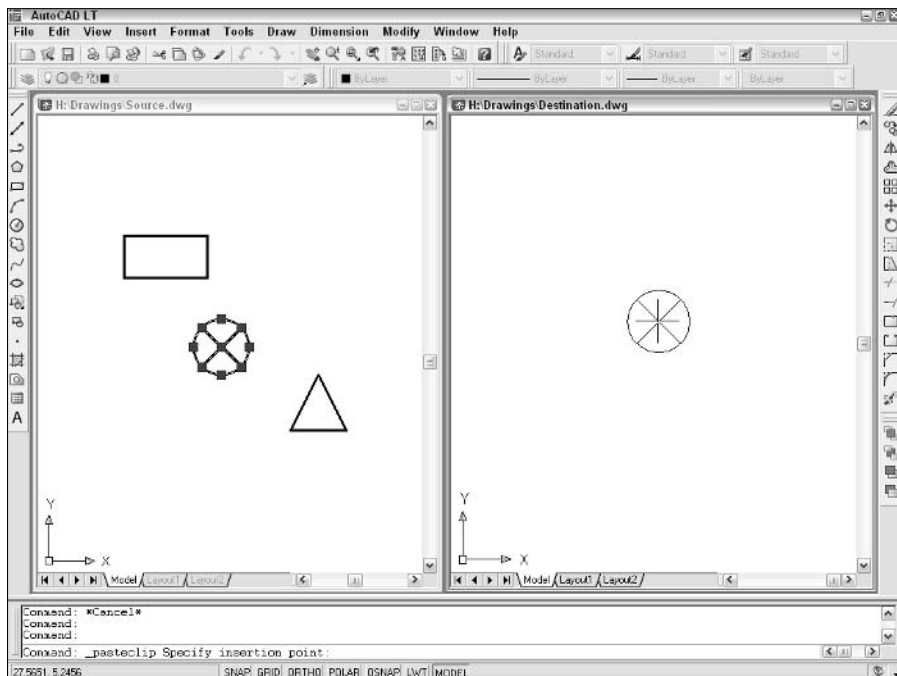

Figure 7-5:
1. **Open two drawings that contain geometry you want to copy from one to the other. Arrange the two drawings so that you can see both of them, as shown in Figure 7-5.**